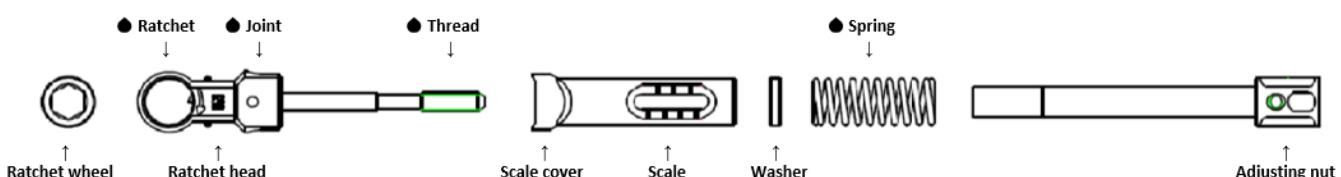

Figure 3
Immediately after use (within 2 hours at the latest) the instruments should be cleaned of heavy accumulation of dirt. The torque ratchet must be separated into its individual parts before cleaning (irrespective of the selected cleaning type). This is possible without tools. To do so, only the adjusting nut must be unscrewed completely (see **Figure 3**).
- – Lightly lubricate the marked areas (see Figure 3) with instrument maintenance oil.